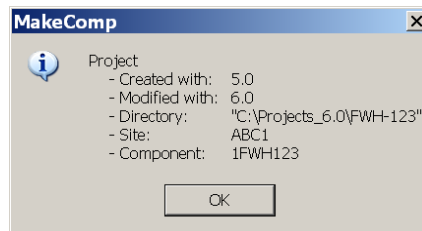

Figure 19. Project Info Dialog
- o **Help | Project Info** displays the dialog shown in Figure 19. The dialog contains information pertinent to the currently open project.